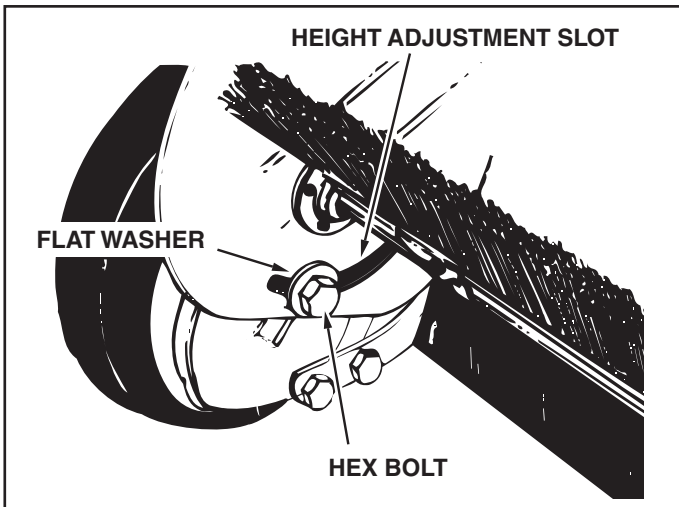

FIGURE 19
2. Inspect for worn or damaged parts, such as brushes and wheels. See figure 19.